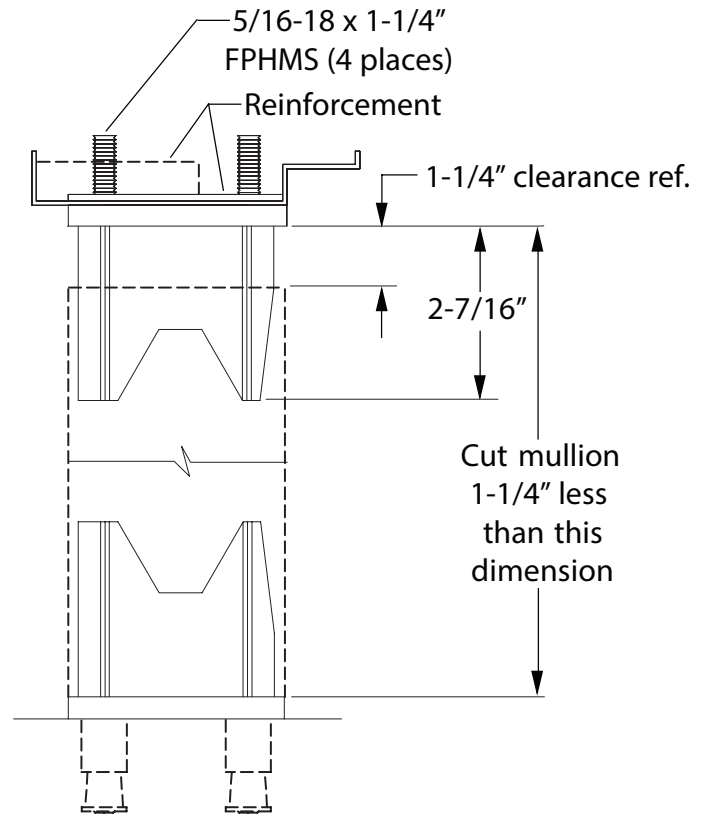

Figure 4
- Line up and install top mullion fitting with center of door opening and flush with closed doors. If stop is less than 3-1/2" wide, a filler block must be provided by others. See Figure 4.
- Cut mullion body from the top to provide clearance as shown in Figure 4. Be sure mullion is seated on bottom fitting. See Figure 4.